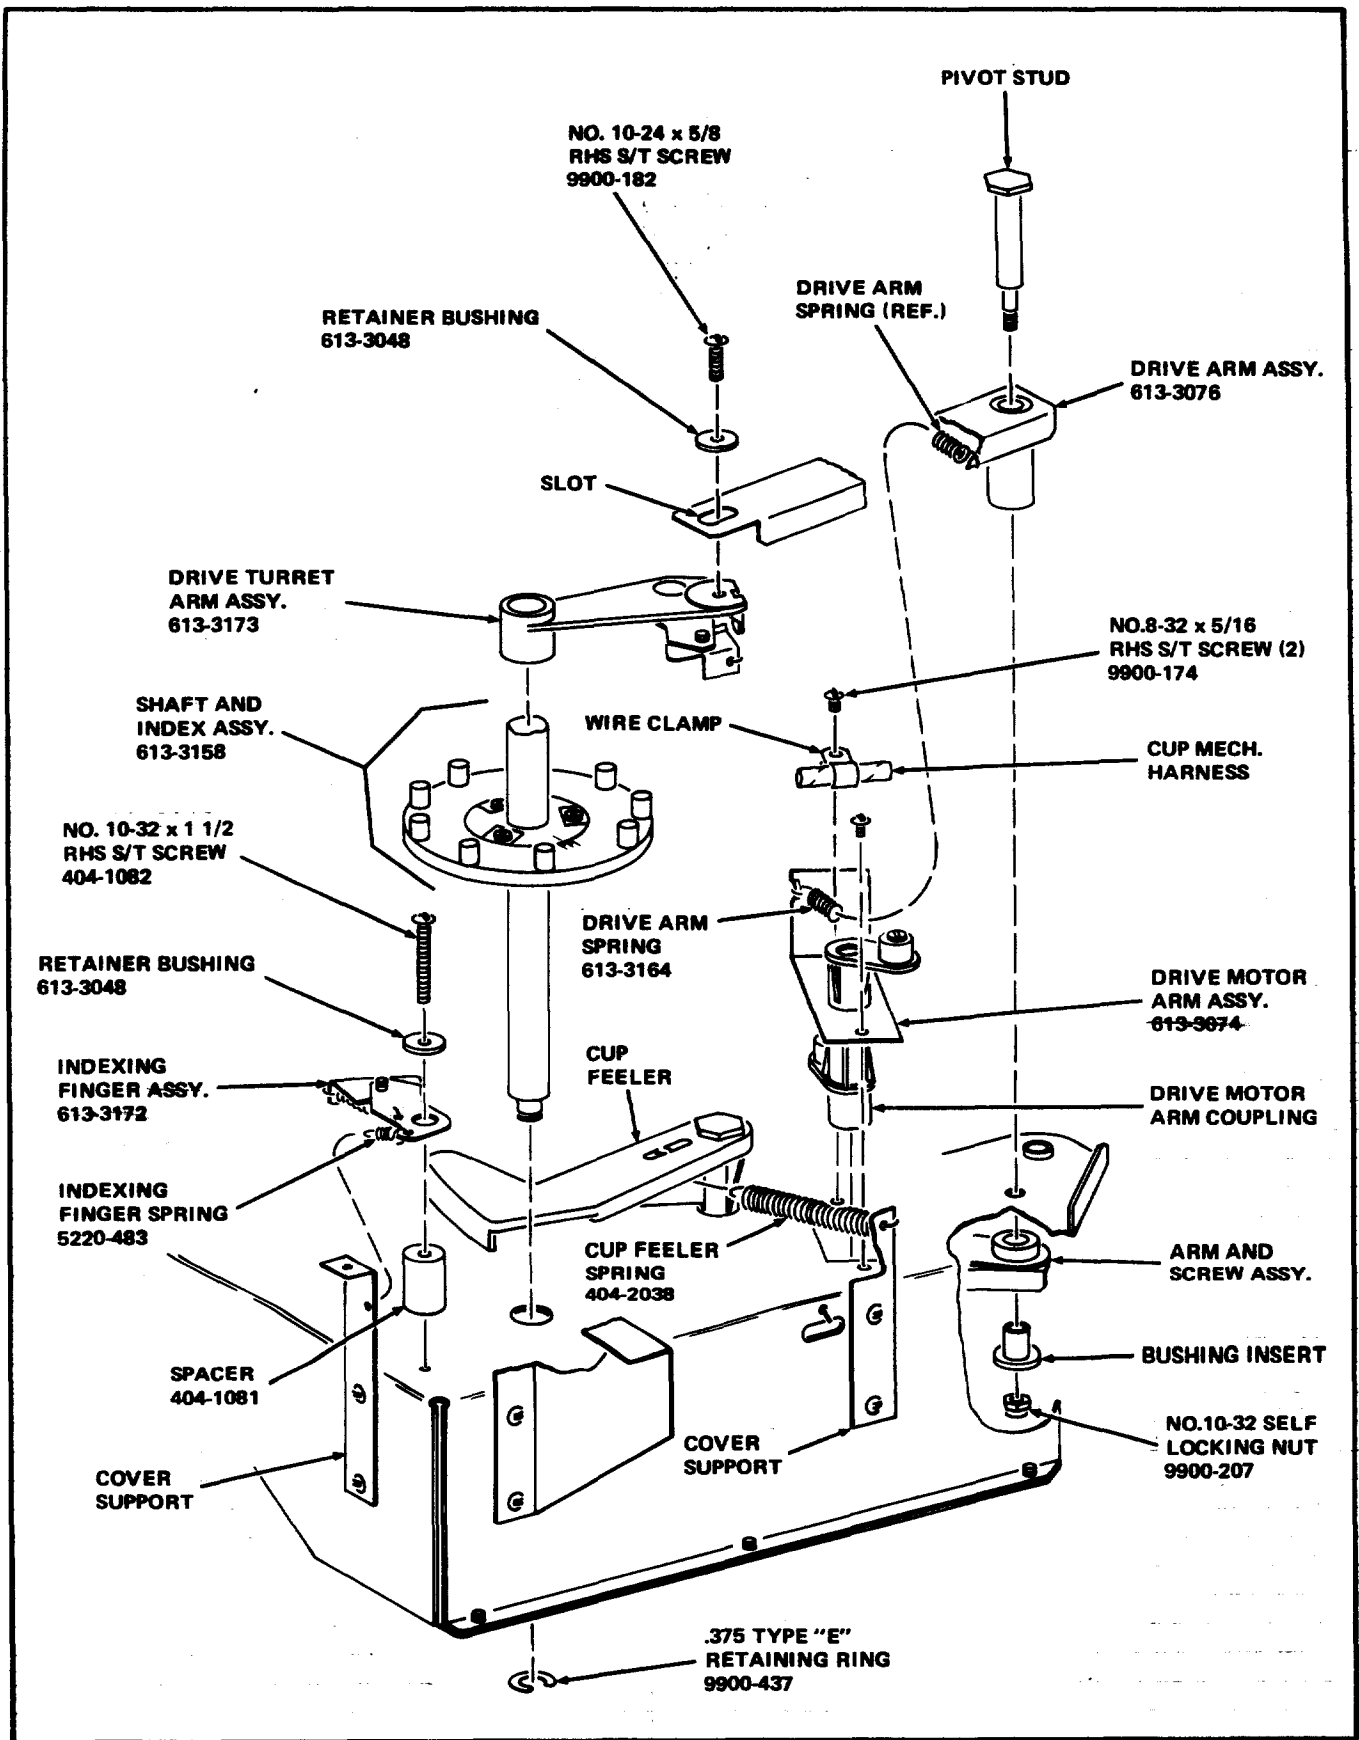
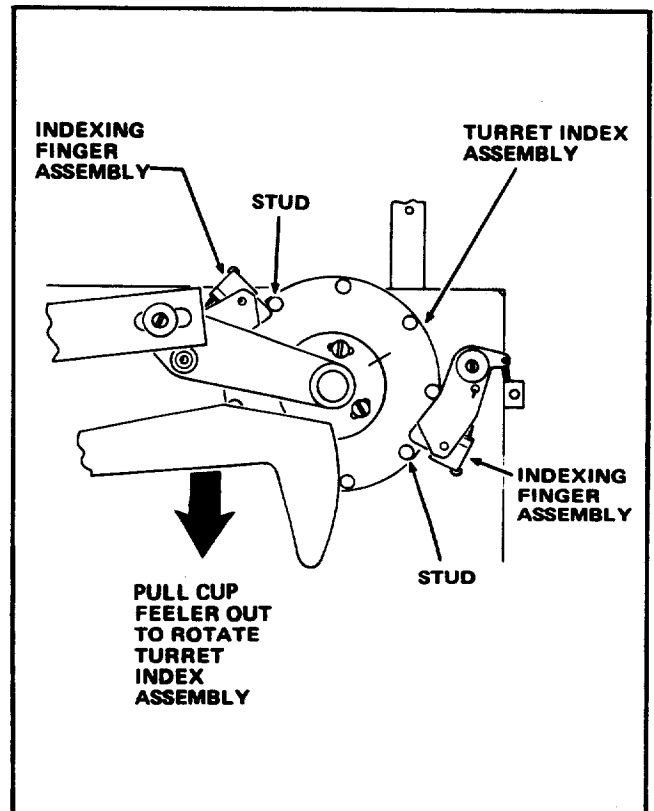

FIGURE 5
FIGURE 7
1. Install the replacement Drive Motor Arm Assembly, Part Number 613-3074, included in the Kit, through the cut out section of the Cup Dispenser Top Plate Assembly and place the Drive Motor Arm Coupling on the Cup Dispenser Motor Shaft. Fit the roll pin of the Cup Dispenser Motor Shaft in the slot in the Drive Motor Arm Coupling. See Figure 5.
2. Attach the Cup Mechanism Harness, Wire Clamp, and Drive Motor Arm Assembly to the Cup Dispenser Top Plate Assembly with two No. 8-32 x 5/16 Round Head Self Tapping Screws, Part Number 9900-174, included in the Kit. See Figure 5.
4. Place the replacement Drive Arm Assembly, Part Number 613-3076, included in the Kit, on top of the Cup Dispenser Top Plate Assembly and fit the Pivot Stud, removed in Step C-9, through the Drive Arm Assembly, Cup Dispenser Top Plate Assembly, and Arm and Screw Assembly. Attach with the Bushing Insert removed in Step C-9 and a No. 10-32 Self Locking Nut, Part 9900-207, included in the Kit. Be sure the Cup Drop Ring Lever is in the square hole of the Arm and Screw Assembly. See Figures 5 and 6.
5. Install the Shaft and Index Assembly, Part Number 613-3158, included in the Kit, by fitting the bottom of the Shaft through the Cup Dispenser Mechanism. Attach a .375 Type "E" Retaining Ring, Part Number 9900-437, included in the Kit, to the bottom of the Shaft from underneath the Cup Dispenser Mechanism. See Figure 5.
6. Slide the Drive Turret Arm Assembly, Part Number 613-3173, included in the Kit, down the Turret Shaft making sure the Indexing Finger Assembly is toward the bottom of the Drive Turret Arm Assembly. Fit the corner of the Indexing Finger Assembly behind one of the Studs on the Turret Index Assembly as shown in Figure 7. Rotate the Turret Index Assembly until the Hole in the Drive Turret Arm is directly under the Slot in the Drive Arm Assembly. See Figure 5 and 7.
7. Attach the Drive Arm Assembly to the Drive Turret Arm Assembly with a Retainer Bushing, Part Number 613-3048, and a No.10-24 x 5/8 Round Head Self Tapping Screw, Part Number 9900-182, both included in the Kit. See Figure 5.
8. Place the Spacer, Part Number 404-1081, under the hole in the Indexing Finger Assembly, Part Number 613-3172, and connect with a Retainer Bushing, Part Number 613-3048, and No. 10 x 32 x 1 1/2 Round Head Self Tapping Screw, Part Number 404-1082, all included in the Kit. See Figure 5.
9. Attach the assembled Spacer, Indexing Finger Assembly, Retainer Bushing and Screw to the Cup Dispenser Top Plate Assembly, making sure the corner of the Indexing Finger Assembly fits behind one of the Studs on the Turret Index Assembly. See Figure 7.
10. Attach the Indexing Finger Spring, Part Number ~~5220-483~~, included in the Kit, to the hole in the Indexing Finger Assembly and Cover Support on the Cup Dispenser Mechanism. See Figure 5.
11. Install the replacement Cup Feeler Spring (longer Spring) Part Number 404-2038, included in the Kit, in the Cup Dispenser Mechanism by attaching one end of the Cup Feeler Spring to the Cup Feeler. Attach the other end of the Cup Feeler Spring to the Cover Support. See Figure 5.
12. Install the replacement Drive Arm Spring, Part Number 613-3164, included in the Kit, in the Cup Dispenser Mechanism by attaching one end of the Drive Arm Spring to the Drive Arm Assembly EXACTLY as shown in Figure 5. Attach the other end of the Drive Arm Spring to the hole in the Drive Motor Arm Assembly EXACTLY as shown in Figure 5.